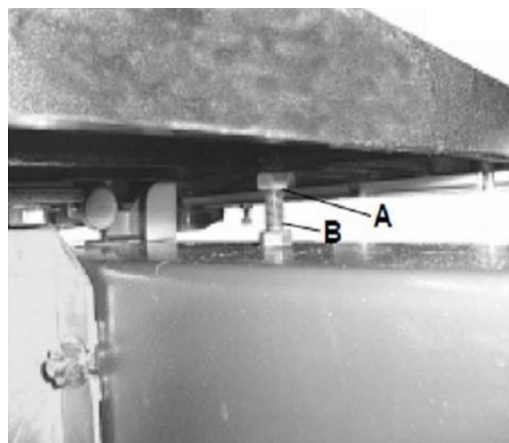

FIG. 13
Refer to Figure 13:
Loosen the nut (A, Fig 13), adjust bolt (B).